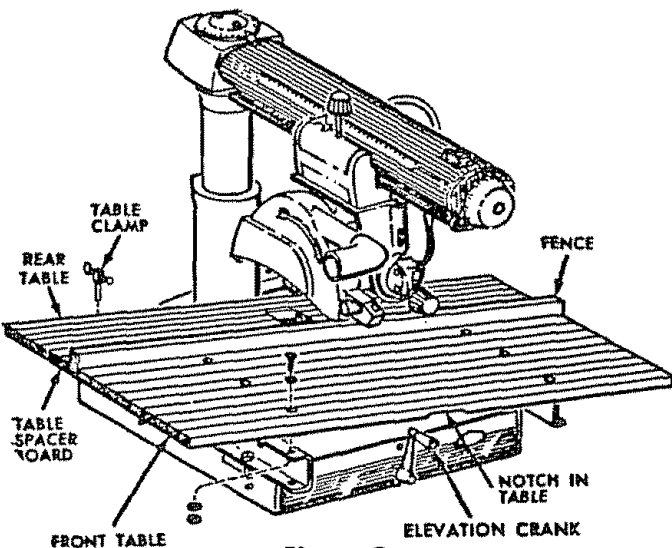

Figure 8
The saw should be placed on a suitable sturdy work bench and positioned so that the elevation crank (figure 8) is free to rotate. The base of the saw must be mounted to a flat surface on the work bench to prevent distortion of the saw base. The nuts, screws, and washers which attach the wooden shipping skids to the saw base may be used to secure the saw base to the work bench. Check that saw is level or sloped slightly to the rear so that carriage when unclamped, does not run freely to the front end of the radial arm.
3. Place front table on channels with notch in table forward and down as shown in Figure 8.
4. Align holes in front table with three forward mounting holes in channels. See Figure 8.